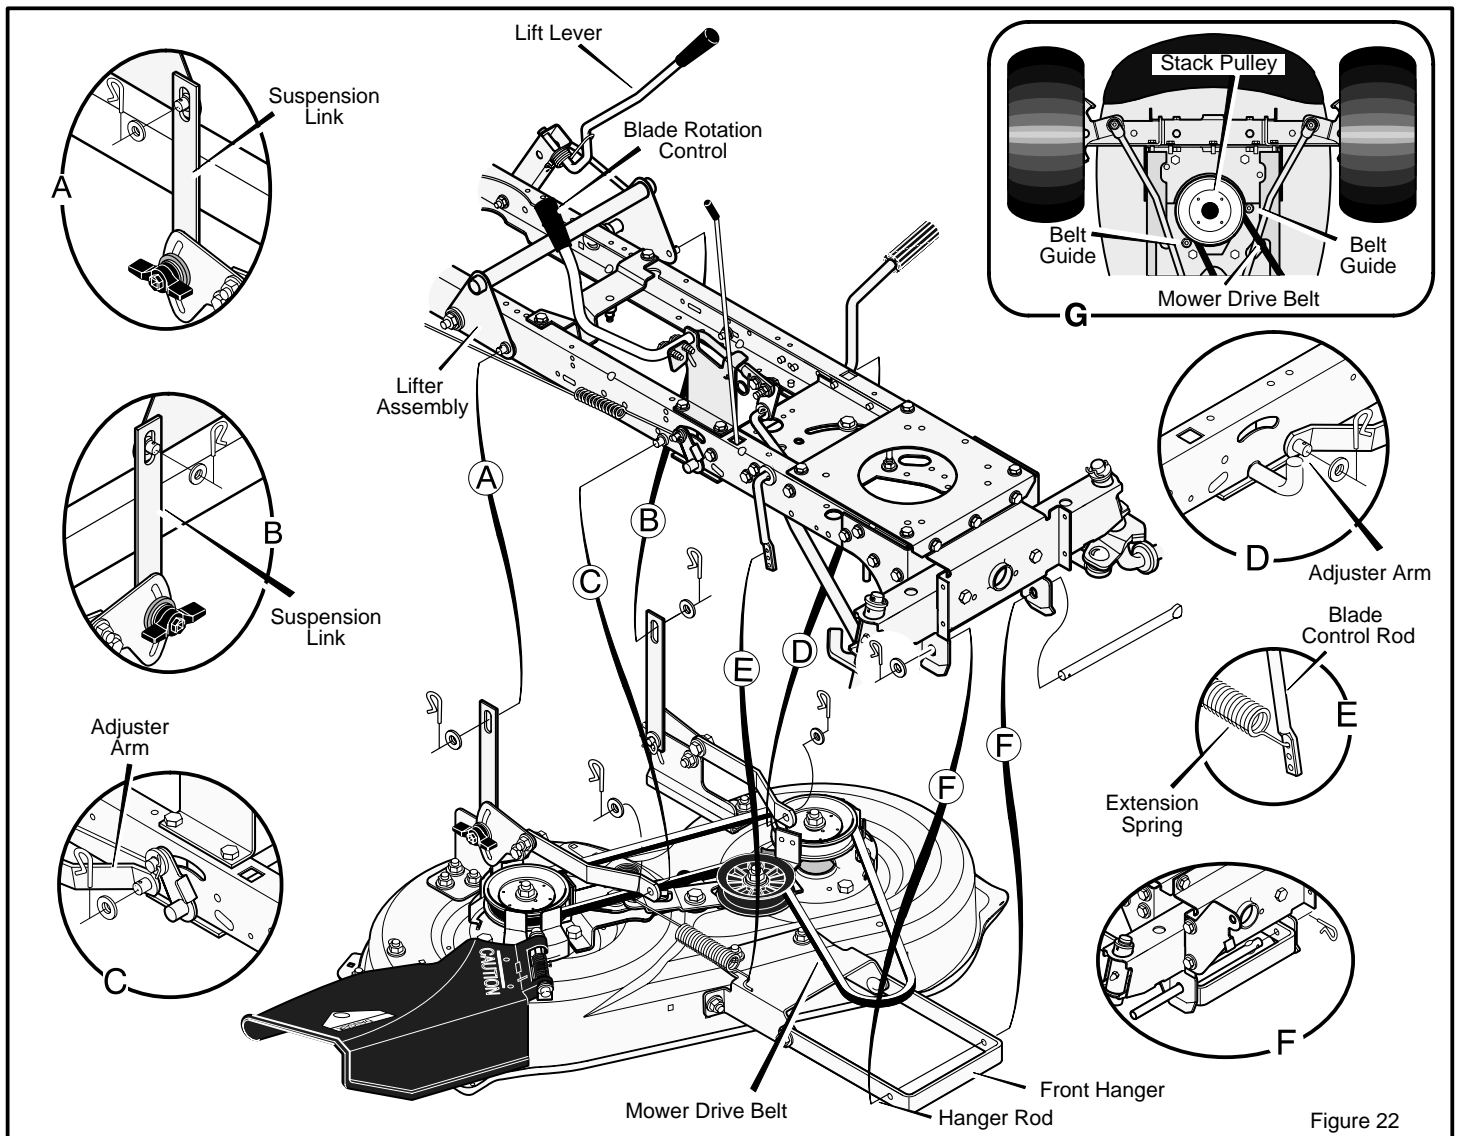

Figure 22
3. Remove the hair pins and the washers from the **adjuster arms** (Figure 22). See illustrations "C" and "D".